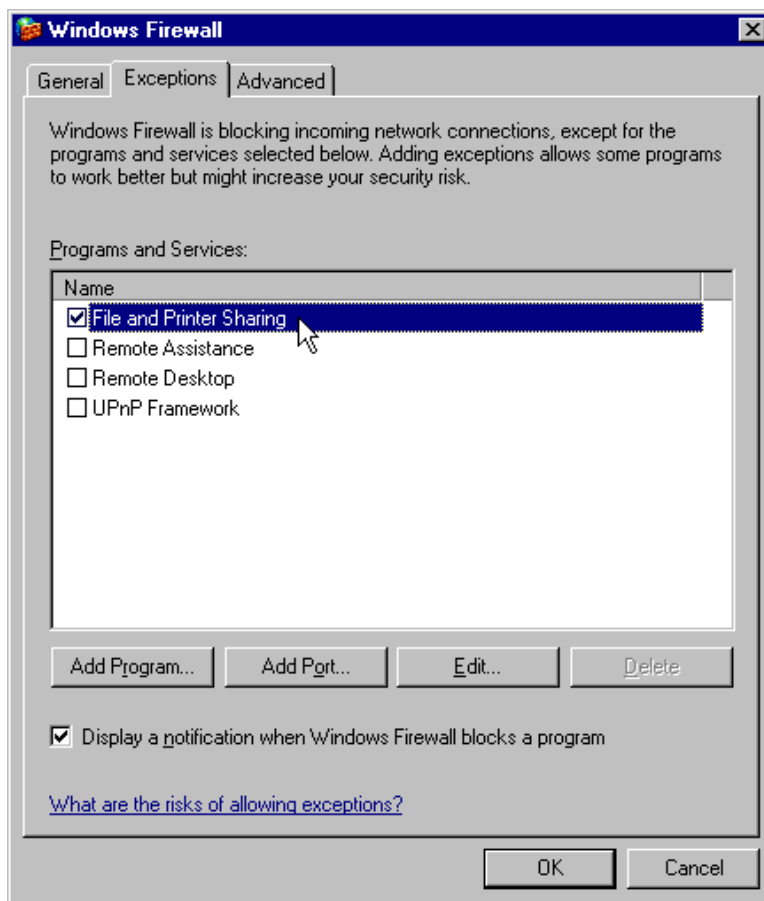

Fig. 3. Turn on File and Printer Sharing.
2. Go to the Exceptions tab, then click to mark the **File and Printer Sharing** checkbox (Fig. 3).